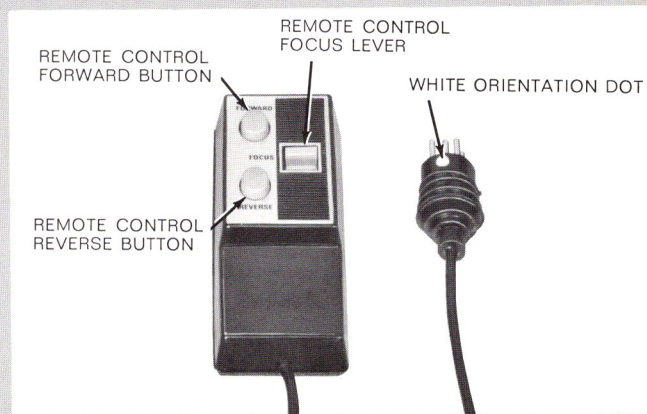

FIGURE 3
This 5-pin receptacle is for the connector on the remote-control cable. The connector must be oriented correctly (colored dot on the connector facing up, see Figure 3) before you insert it into the receptacle.
## Remote Control Forward Button (Figure 3)
2. Connect the remote control cord to the projector with the small **ORIENTATION DOT** (Figure 3) on the cord-plug facing up.